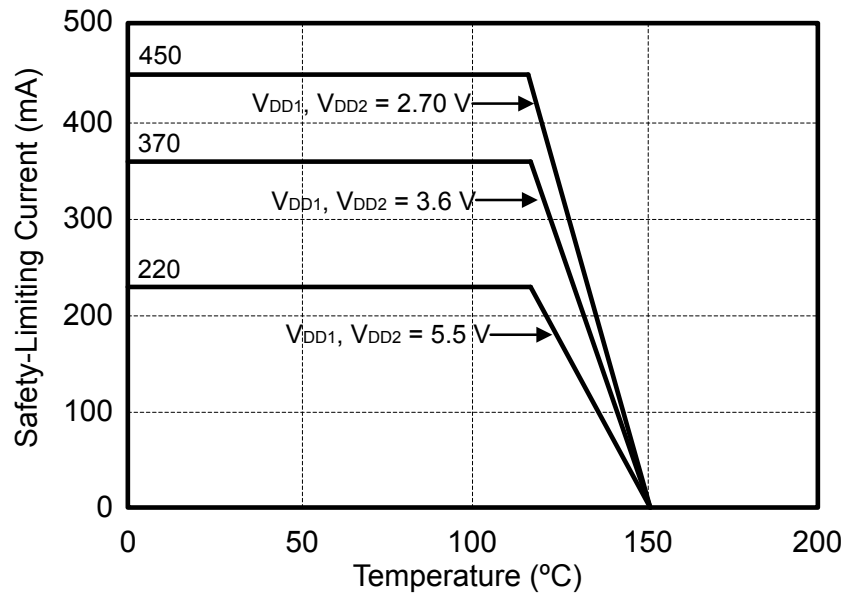
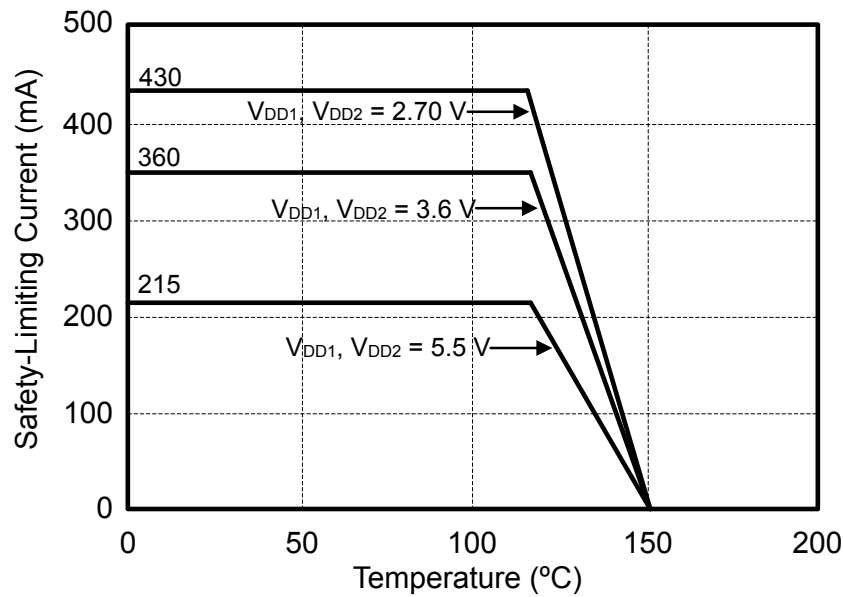
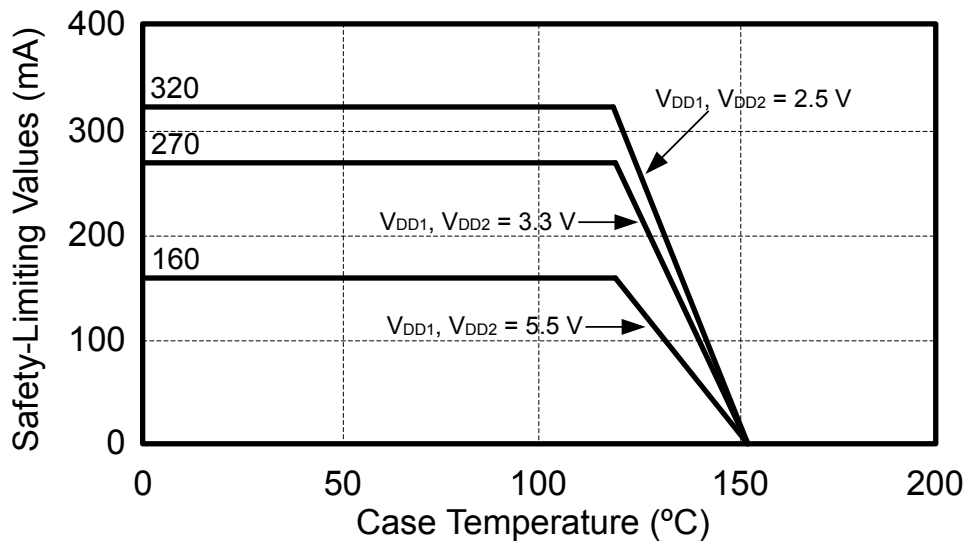

Figure 4.4. (WB SOIC-16) Thermal Derating Curve, Dependence of Safety Limiting Values with Case Temperature per DIN EN 60747-5-2
Figure 4.5. (NB SOIC-16) Thermal Derating Curve, Dependence of Safety Limiting Values with Case Temperature per DIN EN 60747-5-2
Figure 4.6. (NB SOIC-8) Thermal Derating Curve, Dependence of Safety Limiting Values with Case Temperature per DIN EN 60747-5-2
- Maximum value allowed in the event of a failure; also see the thermal derating curve in Figure 4.4 Figure 5.4 on page 28, Figure 4.5 Figure 5.5 on page 28 and Figure 4.6 Figure 5.6 on page 29.